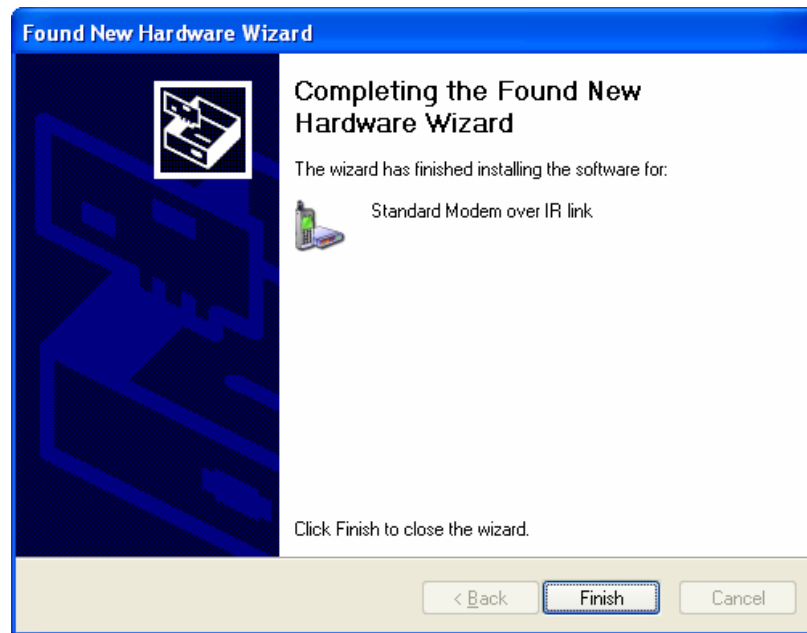

Figure 12 : 'Found New Hardware Wizard' completed
- Once the wizard completed the installation (Figure 12), click **Finish** to close the wizard.